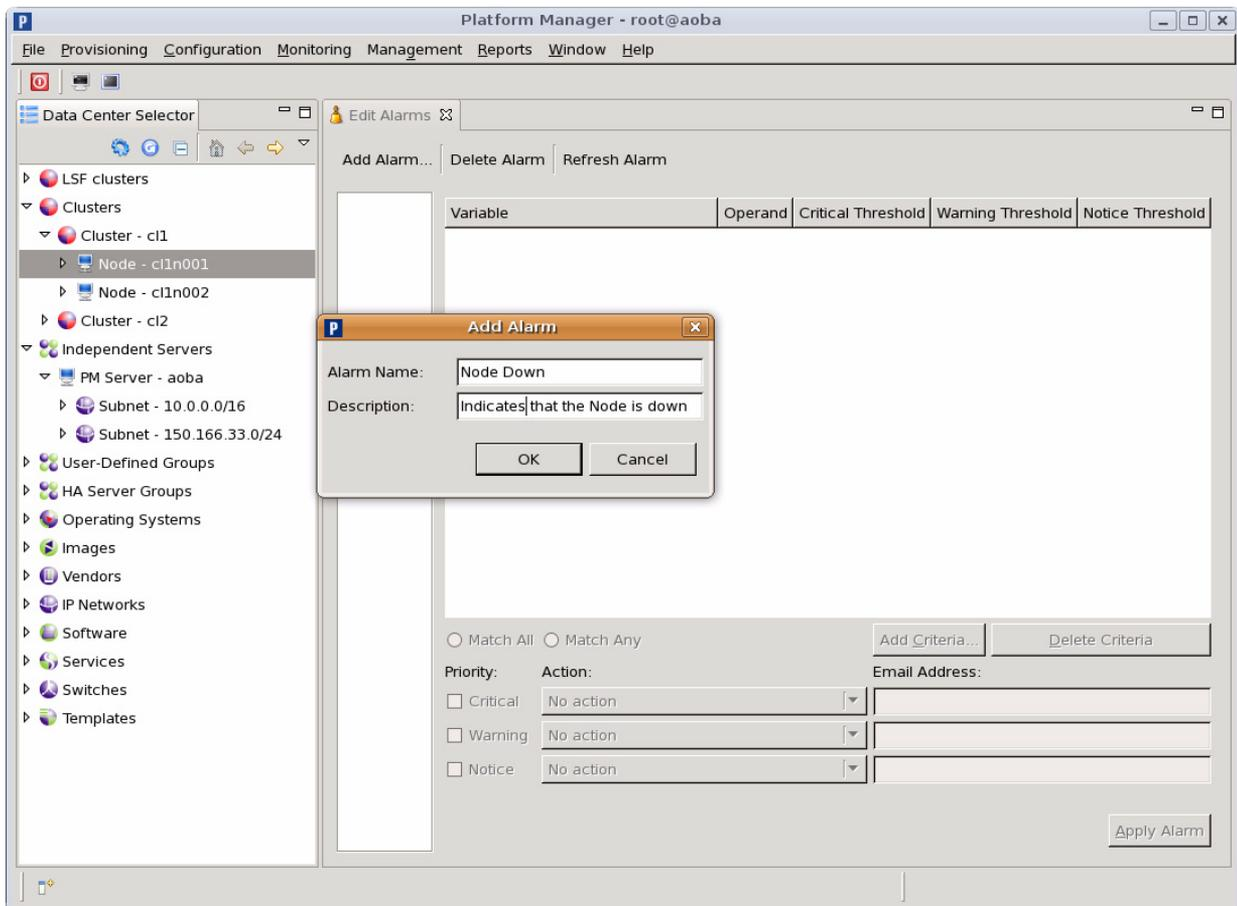

Figure 2-15 Alarm Description Popup Example
4. Then select “Add Alarm” to add the alarm and a pop-up window appears, see Figure 2-15.